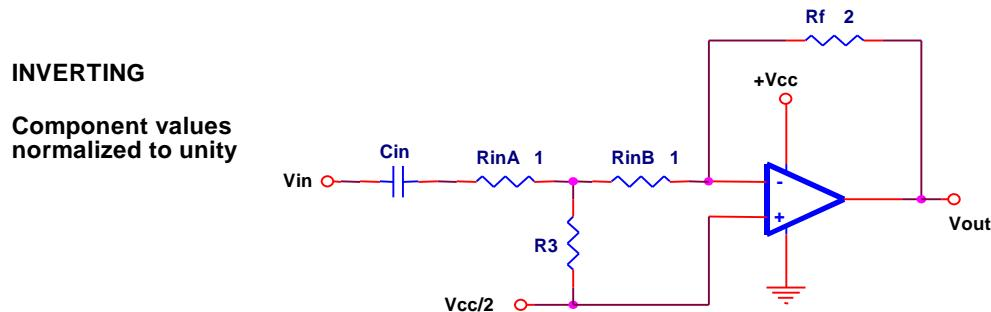

Figure 5. Inverting Attenuation Circuit
which $R_2 < R_1$. This method is not recommended, because many op amps are unstable at gains of less than unity. The correct way to construct an attenuation circuit¹ is shown in Figure 5.
- Multiply the base value for R_f and R_{in} by 1 or 2, as shown in Figure 5.